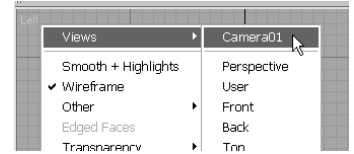

Figure 3.39
- Right-click a viewport name in the upper-left corner of the viewport, and select Views → Camera01, as seen in Figure 3.39. This will change the viewport to the camera's view. You will now be able to access the Camera Viewport navigation tools shown in the following table.